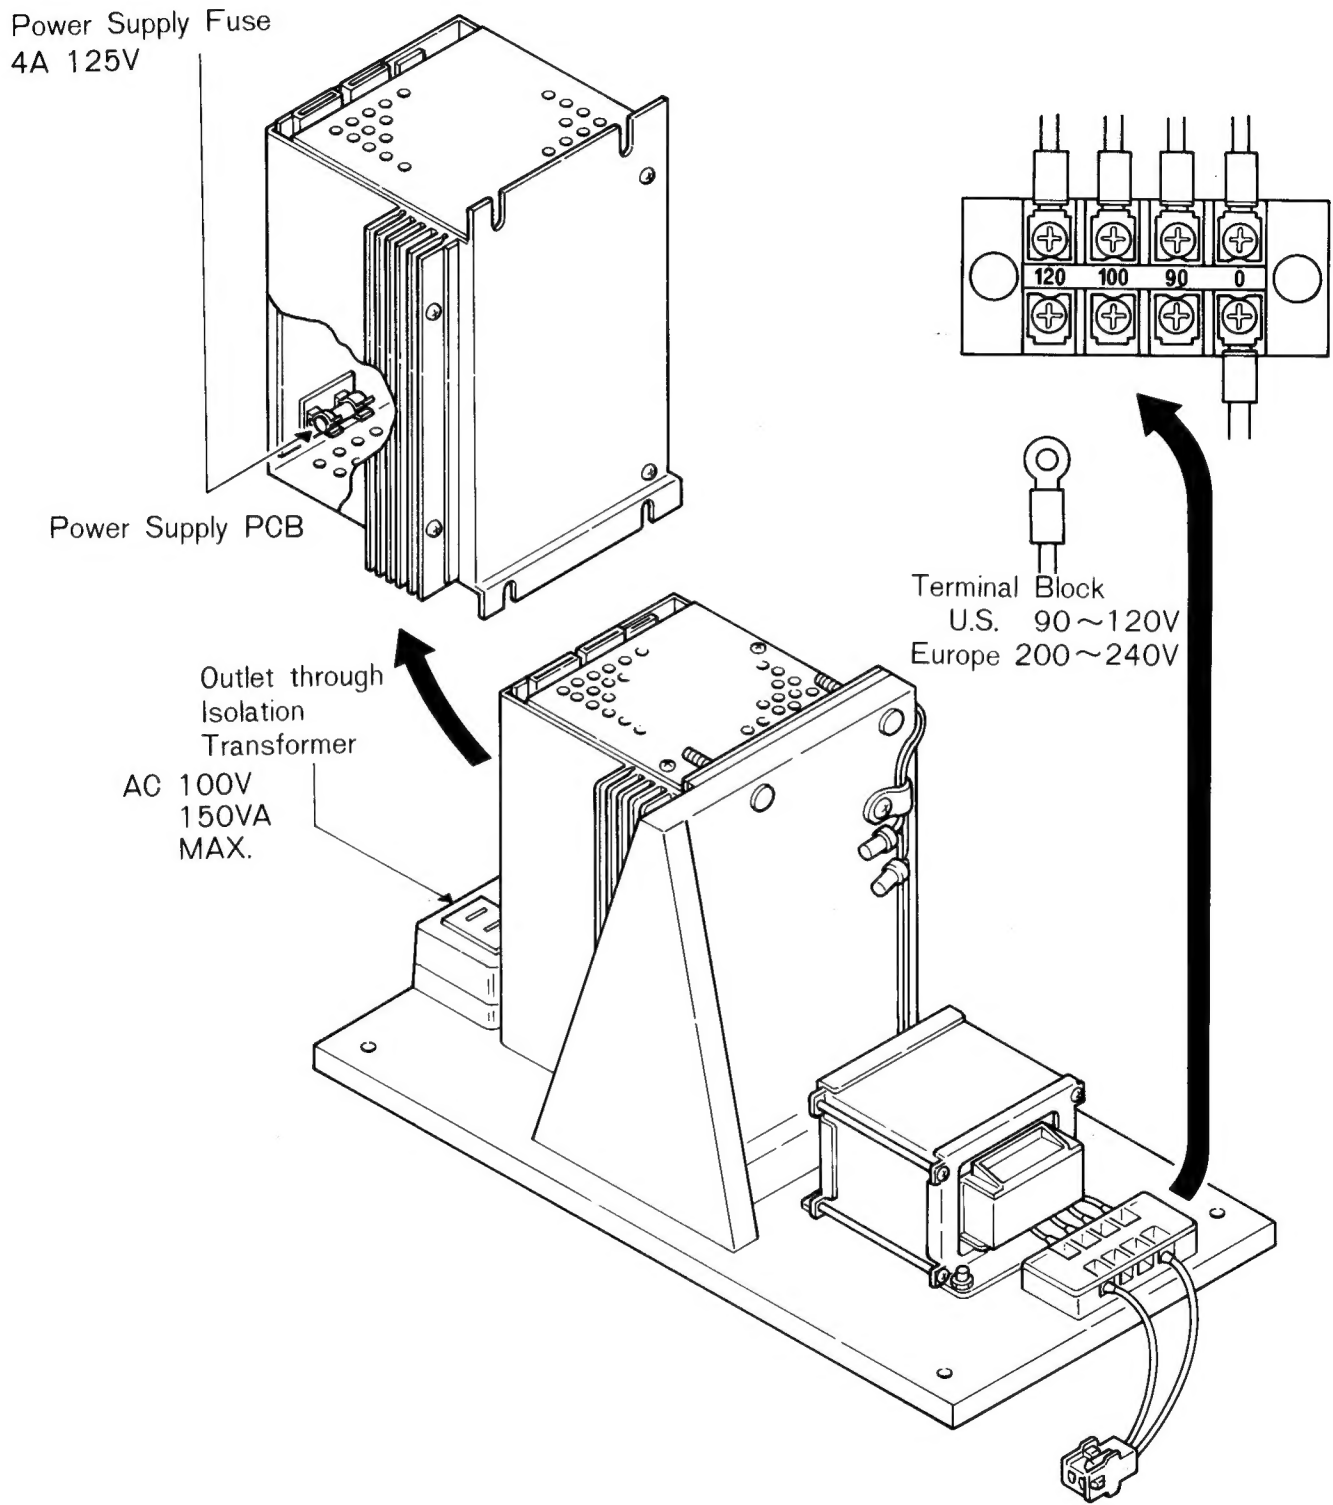

Fig. 3 Power Supply and Voltage Selection
(2) Power Supply fuse	4A 100V See Fig. 3